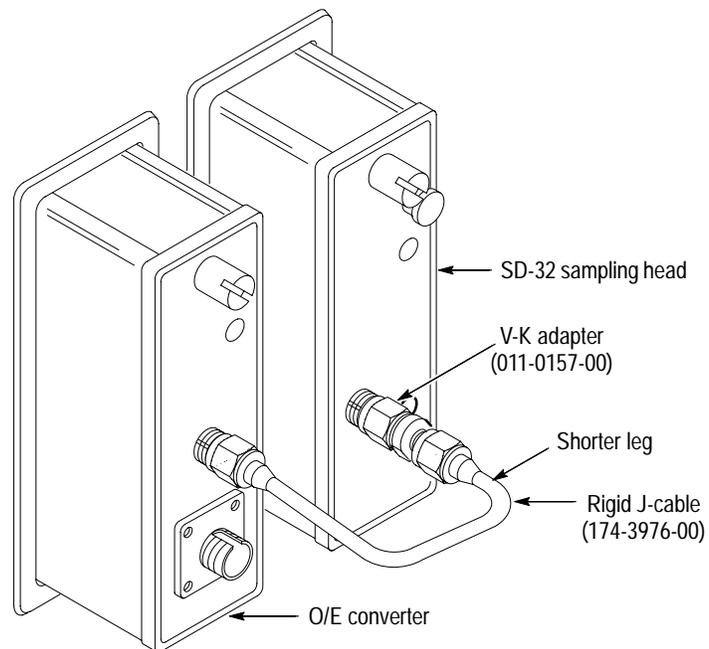

Figure 3: Using the rigid connector and V-K adapter (SD-32 sampling head only)
- SD-32 (requires a V-K adapter and rigid J-cable, see Figure 3 on page 5)
- b. On the SD-32 sampling head, use the rigid connector and install the shorter leg of the connector on the sampling head with a V-K adapter. See Figure 3. (The V-K adapter is a standard accessory of the SD-32. If you do not have a V-K adapter, refer to the list of optional accessories on page 23.)